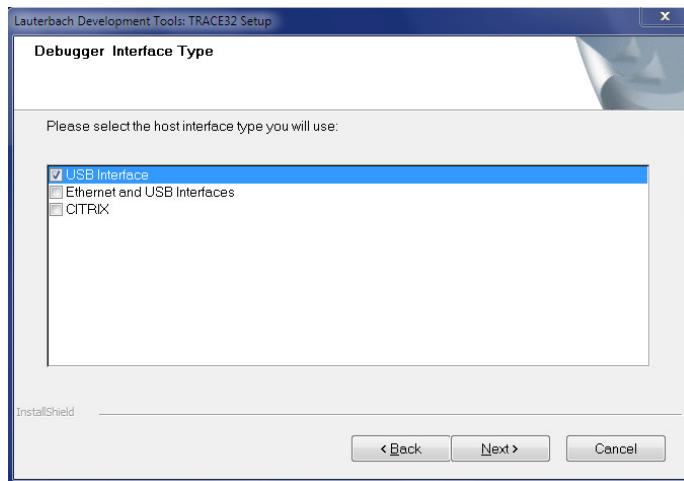

Figure 5.27: **Debugger Interface Type** page
7. On the **Debugger Interface Type** page, select **USB Interface** (see Figure 5.27 on page 36).